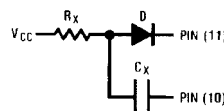

FIGURE 2.
4. If C_X is an electrolytic capacitor a switching diode is often required for standard TTL one-shots to prevent high inverse leakage current Figure 2.